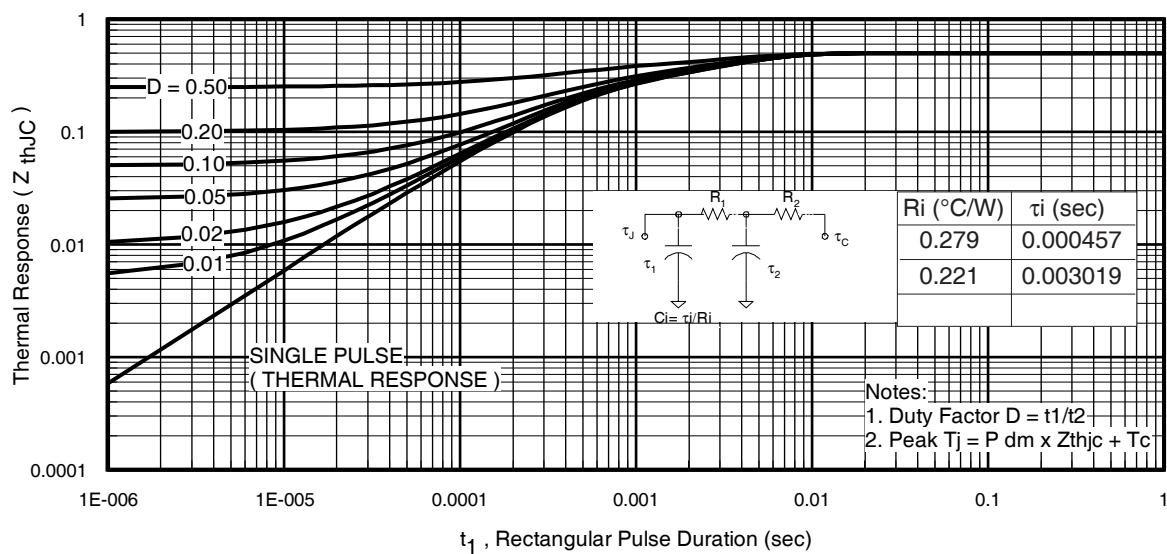
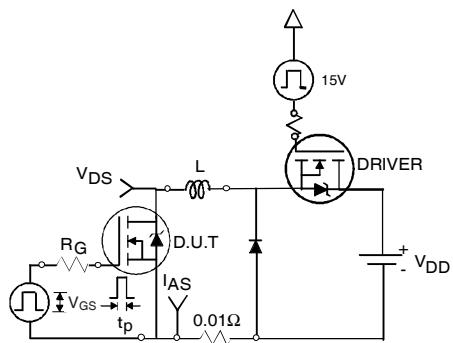

Fig 11. Maximum Effective Transient Thermal Impedance, Junction-to-Case
Fig 12a. Unclamped Inductive Test Circuit
| I_{AR} | Avalanche Current ① | See Fig.12a,12b,15,16 | A |
- ① Repetitive rating; pulse width limited by max. junction temperature. (See fig. 11).
- ② Limited by $T_{J\text{max}}$, starting $T_J = 25^\circ\text{C}$, $L=0.095\text{mH}$, $R_G = 25\Omega$, $I_{AS} = 75\text{A}$, $V_{GS} = 10\text{V}$. Part not recommended for use above this value.
- ③ $I_{SD} \leq 75\text{A}$, $di/dt \leq 340\text{A}/\mu\text{s}$, $V_{DD} \leq V_{(\text{BR})\text{DSS}}$, $T_J \leq 175^\circ\text{C}$.
- ④ Pulse width $\leq 1.0\text{ms}$; duty cycle $\leq 2\%$.
- ⑤ $C_{\text{oss eff.}}$ is a fixed capacitance that gives the same charging time as C_{oss} while V_{DS} is rising from 0 to 80% V_{DSS} .
- ⑥ Limited by $T_{J\text{max}}$, see Fig.12a, 12b, 15, 16 for typical repetitive avalanche performance.
- ⑦ This value determined from sample failure population. 100% tested to this value in production.
- ⑧ This is applied to D²Pak, when mounted on 1" square PCB (FR-4 or G-10 Material). For recommended footprint and soldering techniques refer to application note #AN-994.
- ⑨ R_Q is measured at T_J of approximately 90°C .
- ⑩ TO-220 device will have an R_{th} of $0.45^\circ\text{C}/\text{W}$.
3. Equation below based on circuit and waveforms shown in Figures 12a, 12b.
- $Z_{thJC}(D, t_{av})$ = Transient thermal resistance, see figure 11)